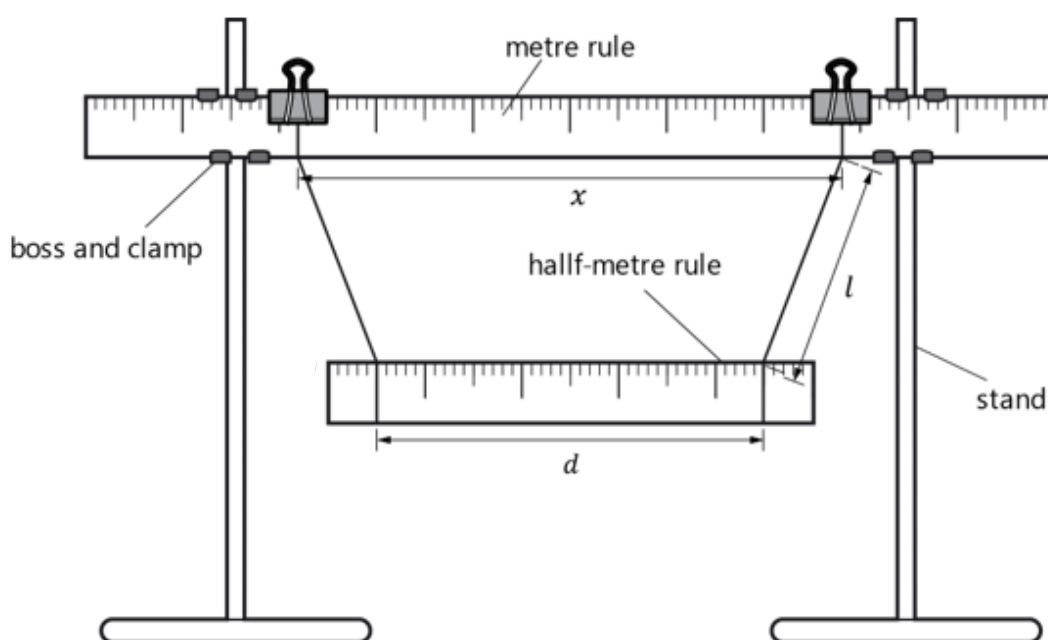

Fig. 1.1
The apparatus in Fig. 1.1 has already been set up for you.
- (b)** **(i)** Measure the length l along the thread that connect the two rules as shown in Fig. 1.1.